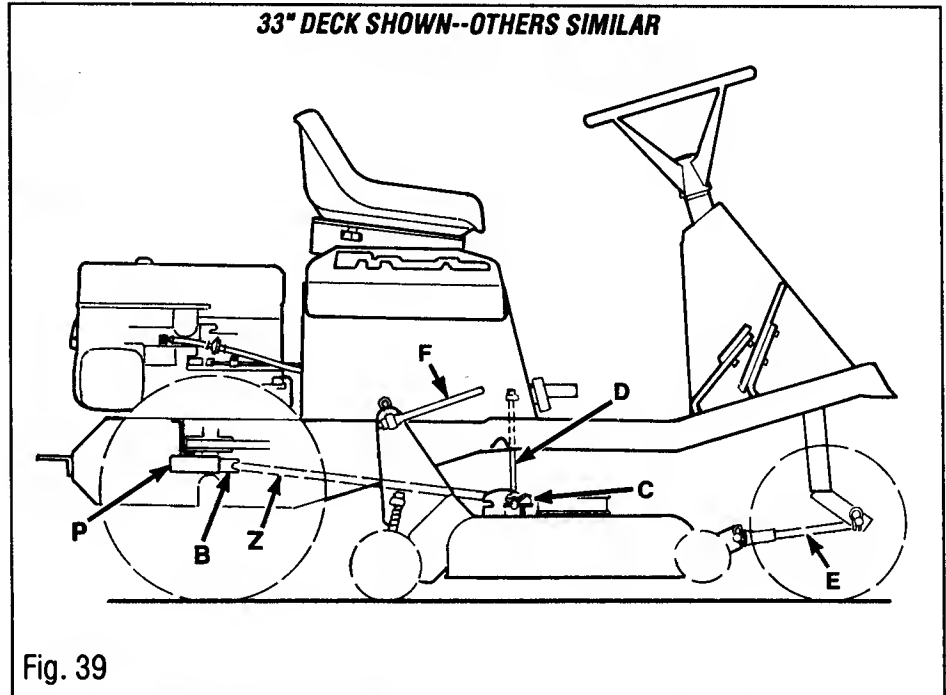
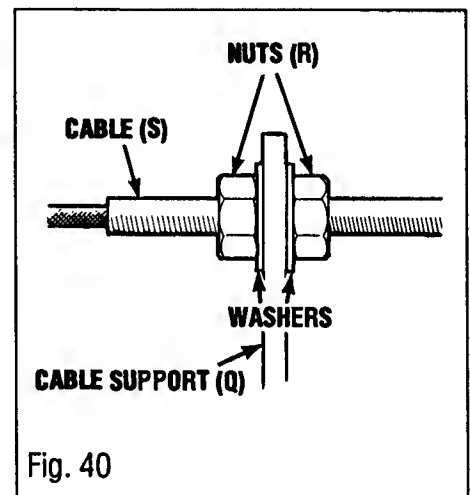

Fig. 39
Fig. 40
1. Remove belt guide (P, Fig. 39)
3. Remove the belt from the engine pulley (B). It may be necessary to turn the differential to remove belt.
4. Remove hitch pins (C) and disconnect lift rods (D).
5. Remove hitch pins and disconnect pivot rods (F) from lift plate.
6. Disconnect mower drive cable cable (S, Figs. 41, 42 & 43 on the following pages) from spring (H). Loosen nuts securing cable to cable support (See Fig. 40). Remove cable from deck.
7. Remove clevis pin from the front of rod end (E, Fig. 39), releasing mower.
8. Slide mower out from under the tractor. Swing the lift rods (D) forward or backward to allow for easy removal.
1. Remove belt guide (P, Fig. 39) and loosen guides (Y & H, Fig. 41 on following page).
4. Re-tighten idler pulley bolt (T). Make sure guide (Y) is in approximate position as shown.
5. Assemble belt onto engine sheave and slide belt guide (P, Fig. 39) as far forward as possible. Re-tighten guide (P). NOTE: It may be necessary to rotate differential to assemble. Check clearance between guide (P) and bolt heads on differential. A gap of 1/8" should exist.